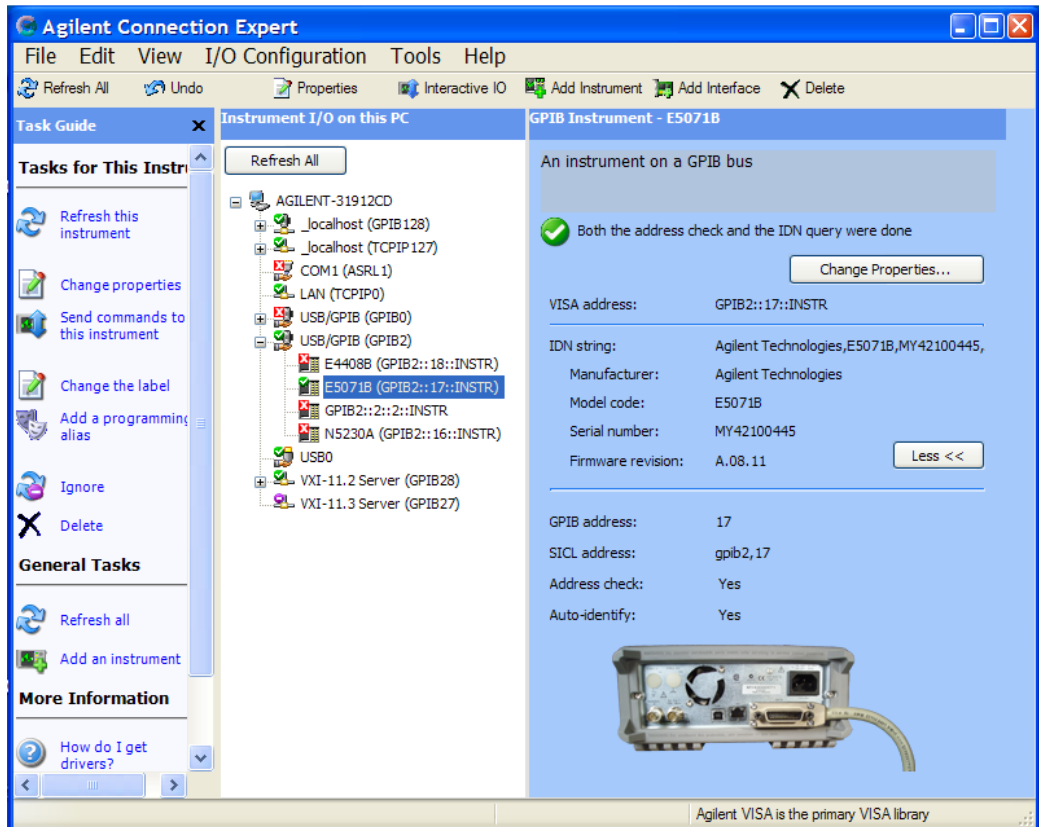

Figure 24 Agilent Connection Expert
- 8 Ensure that the application detects the spectrum analyzer connection to the oscilloscope. Else, click on the Connect... button in the Spectrum Analyzer External Instruments group. A pop-up box will appear where you can enter either the VISA/SICL address or the IP address. Enter the information and click the Verify button, followed by the Done button to close this box. The VISA/SICL address or the IP address can be obtained from the IO Control Connection Expert application, as shown in Figure 24.